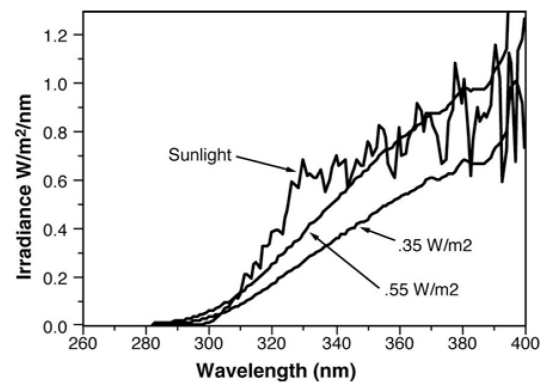

Figure 2 - Xenon Arc Effect of Irradiance Level
1. Effect of Irradiance Level - Common irradiance settings for the xenon arc are .35 or .55 W/m2 at 340 nm. Most non-automotive users select a setting of .35 for reasons of practicality. As shown in Figure 2, .55 compares reasonably well with summer sunlight, but .35 is more like winter sunlight. Figure 2 shows the xenon arc with borosilicate filters.